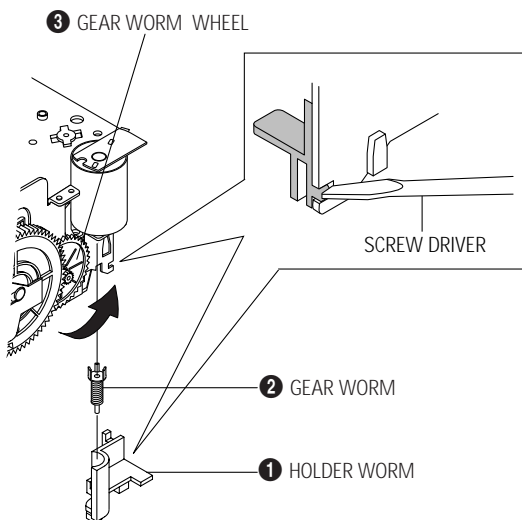

Fig. 2-2
- 1) Remove the Holder Worm **①** and the gear worm **②**. (See Fig. 2-2)
- 2) Turn the Gear Worm Wheel **③** counterclockwise in the direction of arrow with screw driver. (See Fig. 2-2)
- 4) Rotate Gear Worm Wheel **③** counterclockwise using screw driver again up to the state of eject mode and then pick out the tape. (Refer to Fig. 2-2)